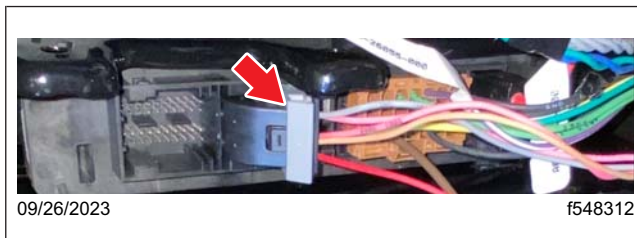
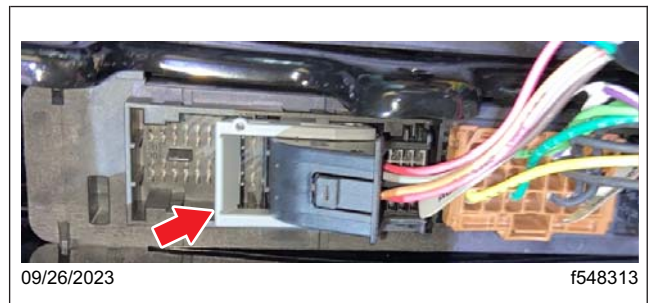

Fig. 42, XMC2 X2 Connector Latched
Fig. 43, XMC2 X2 Connector Fully Unlatched
14. Disconnect the X2 connector from XMC2 using the same procedure used to remove the X1 connector. See Fig. 42 and Fig. 43.